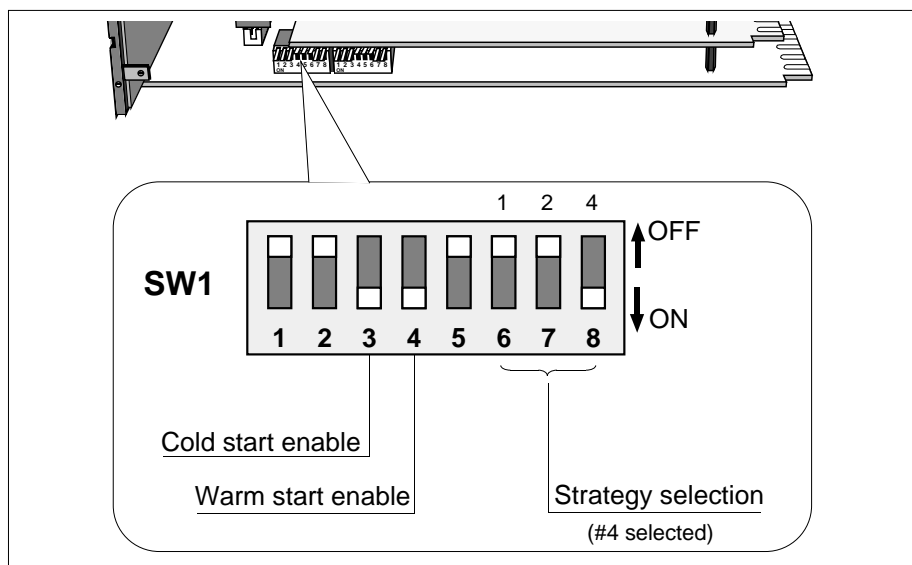

Figure 3-11 SW1 location and settings — strategy #4
- 1 Withdraw the T640 from its sleeve and set the strategy select switches to #4. Figure 3-11 shows the required SW1 switch positions.